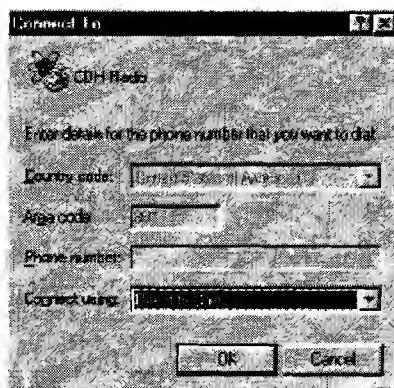

Figure 2 – Connect To Dialogue Box
- c. In the **Connect To** dialogue box on each computer, select *Connect using: Direct to Com1* or *Direct to Com2* to correspond with the comm port used on the respective computers (see figure 2). Click *OK*.